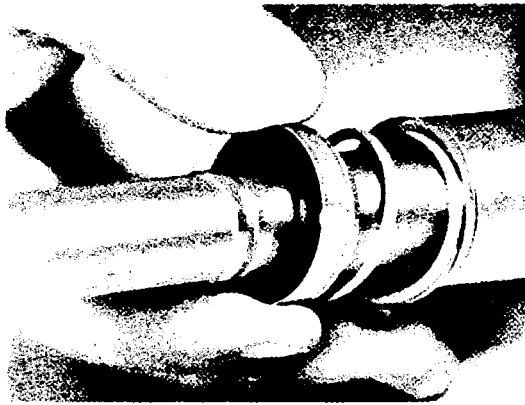

Figure 5.
4. Grasp the seal subassembly as shown in Fig. 5 and, using a rotating motion, gently slide the seal subassembly over the shaft. Use care not to cut the flexible diaphragm and drive ring. A piece of shim stock wrapped around the power rotor shaft to cover the snap ring grooves and shoulder of the seal diameter may be used for this purpose. If shim stock is used, twist the seal subassembly in the same direction as the wrap of the shim stock when installing it.